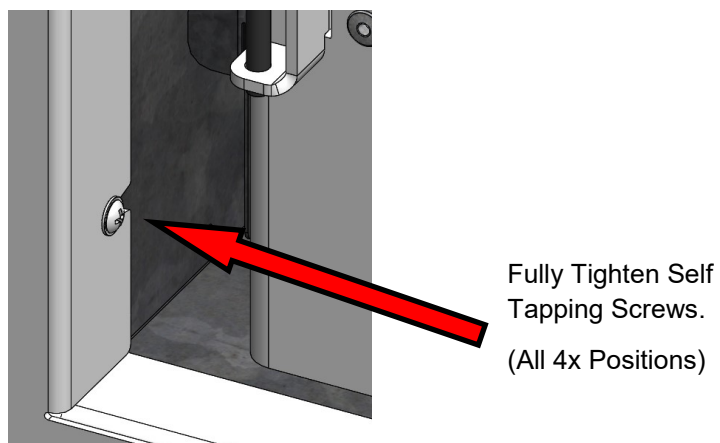

Fig. 16. Trim Fixing
- With the surround trim fitting onto the screw fixings, check alignment with the surrounding wall and plaster. Fully tighten all 4x trim retaining screws. Fig. 16.